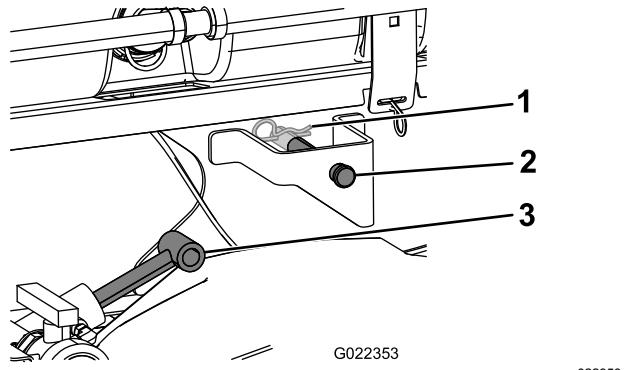

Figure 12
4. Extend the lift cylinders to the brackets on the tank skid, and align the cylinder fittings with the holes in the tank skid brackets (Figure 12).